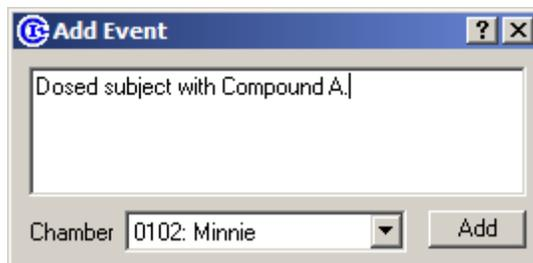

Figure 45 - Add Event Prompt
1. Click “Add Event” from the main “Experiment” Oxymax menu to display the “Add Event” prompt as in Figure 45.